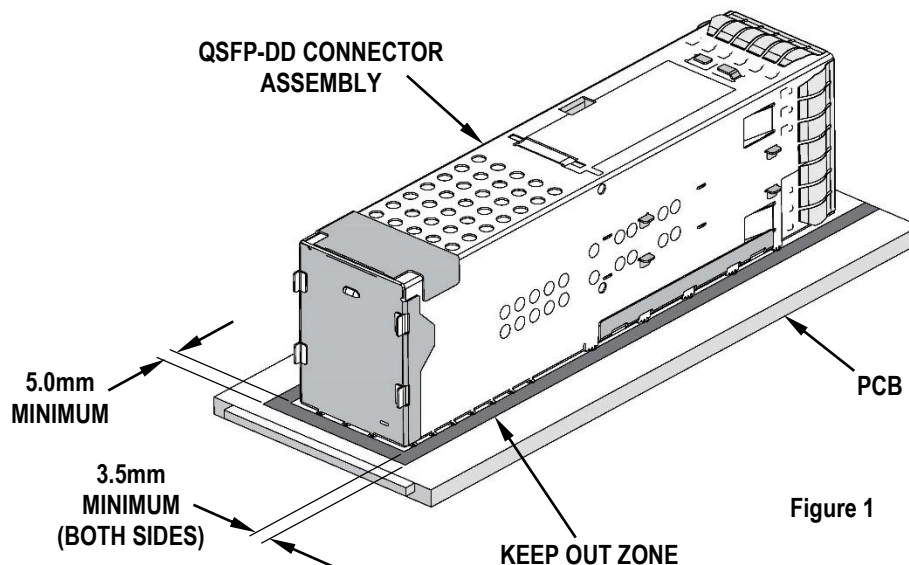

Figure 1
2. These tools require a “Keep Out Zone” around the connector free of components. The rear of the connector should be .197” (5.0mm). The right and left sides should be .14” (3.5mm). See Figure 1.